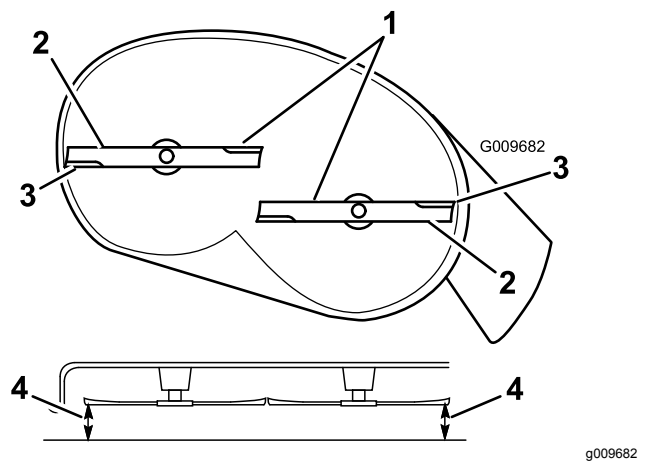
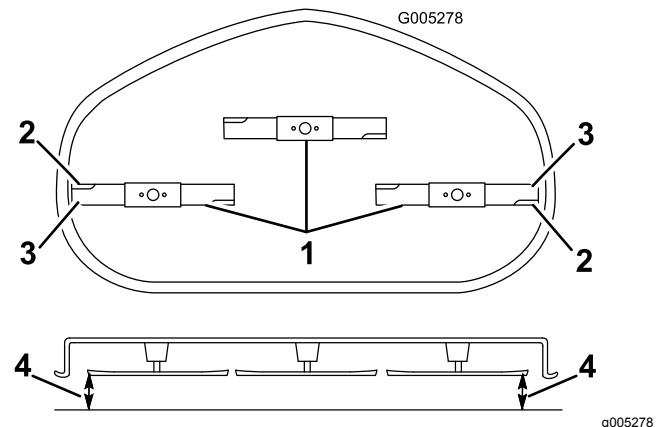

Figure 67
Figure 68
4. Carefully rotate the blades so that they are all side to side (Figure 67 and Figure 68).
5. Measure between the outside cutting edges and the flat surface (Figure 67 and Figure 68).